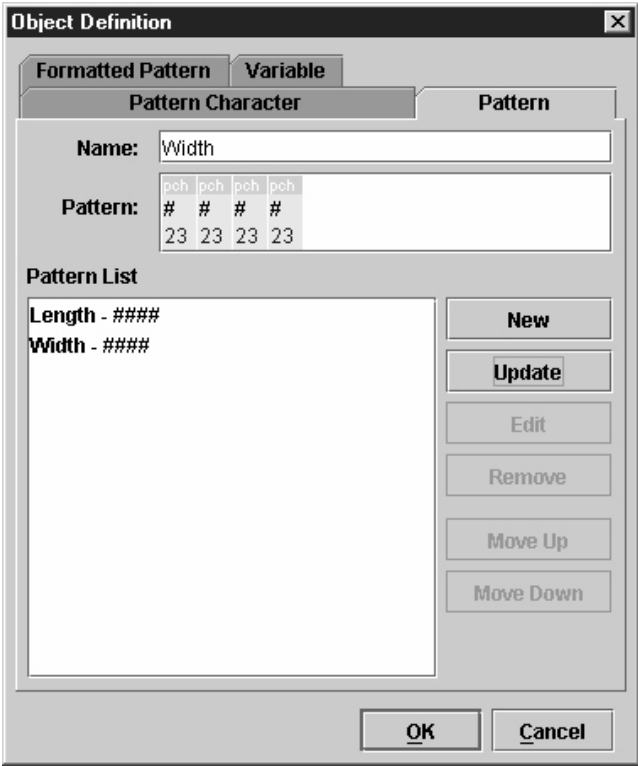

Figure 149. Defining Patterns
- 13. Click **Add** to add the pattern to the list. See Figure 149.